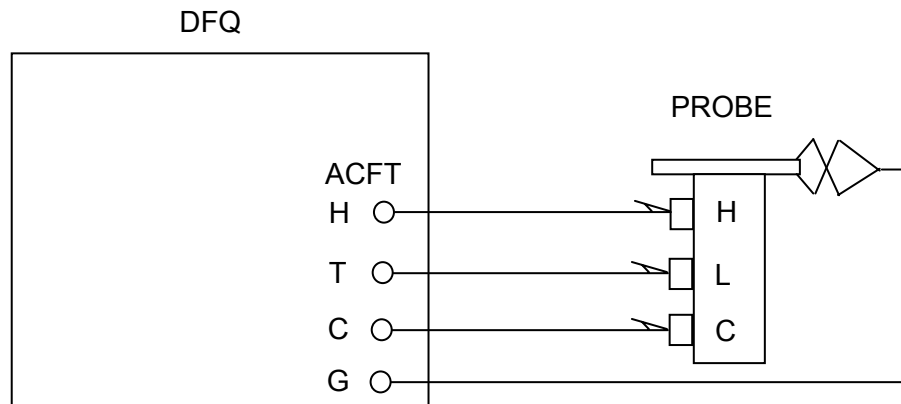

Figure 14 BENCH CAPACITANCE TEST CONFIGURATION
- (1) Position the proper equipment for the following procedures.
- (2) Connect the BNC to mini alligator clip leads between the Test Set ACFT jacks and the associated Probe terminals. Refer to Figure 14.
- (3) Connect the ground lead from the Test Set **GND** receptacle to the probe mounting flange. Refer to Figure 14.